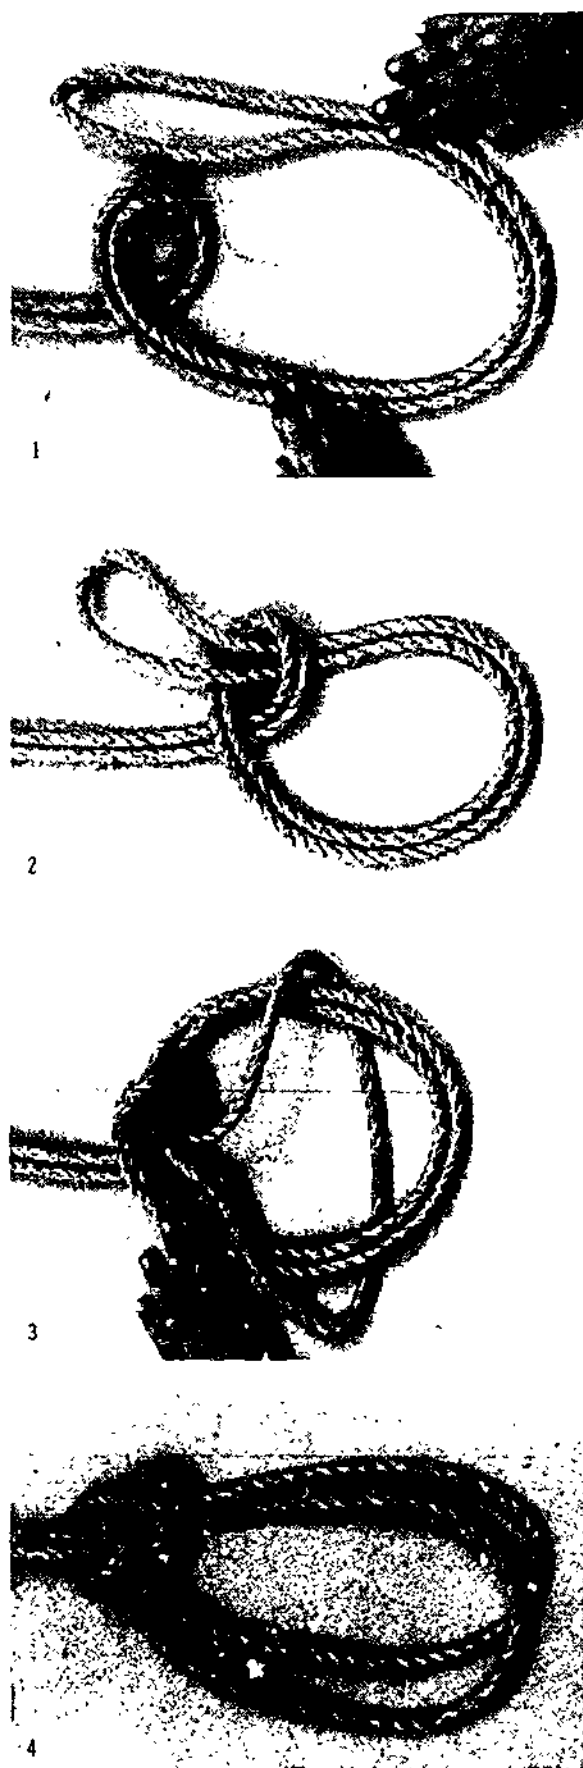

Figure 7-13. Tying a Bowline on the Bight
- 4 A **bowline on the bight** is tied to form a double loop in the middle of a line that can be used as a seat or as a spreader to sling a load. Figure 7-13 illustrates the steps in tying a bowline on the bight.